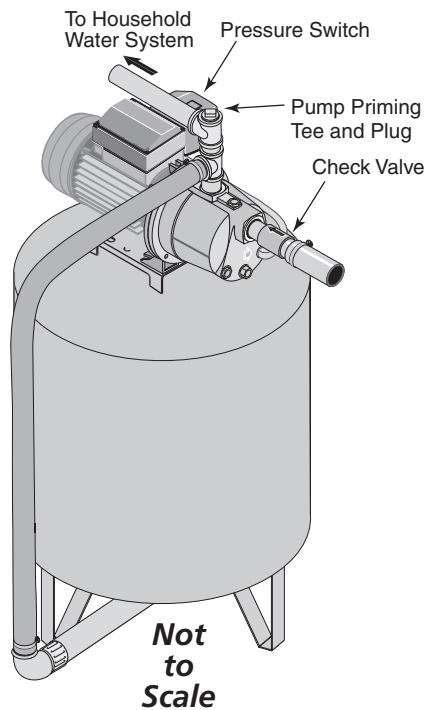

Figure 4 – Pre-charged Tank Connections
PRE-CHARGE TANK CONNECTION (FIGURES 4 AND 5)
1. Install two tees in the pump discharge port (see Figure 4). The pipe size must be at least as large as the discharge port.